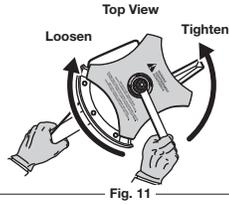

Fig. 11
8. Tighten nut counterclockwise against the blade while holding the locking rod (Fig. 11):
- Without a torque wrench, use a 13 mm closed-end or socket wrench, turning the nut until the blade retainer is snug against the shaft bushing. Make sure that the blade is installed correctly, then rotate the nut an additional 1/4 to 1/2 turn counterclockwise (Fig. 11).
3. While holding the locking rod, loosen the nut on the blade by turning it clockwise with a 13 mm closed-end or socket wrench (Fig. 11).